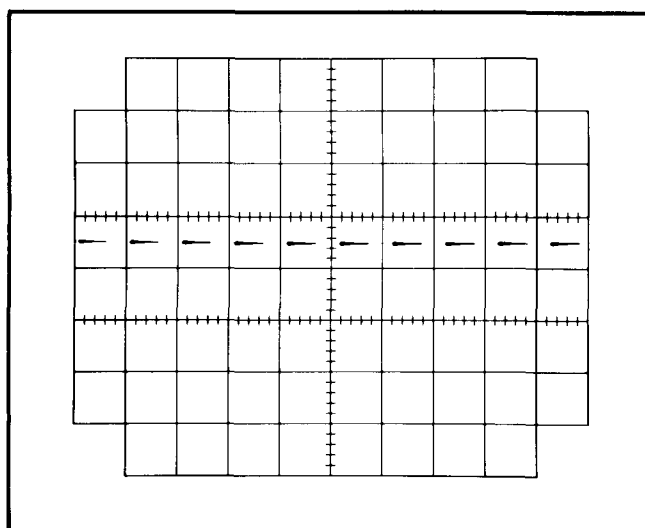

Fig. 5-11. Typical display, intensity modulation (Z Axis Operation).
- h. Check—Upper Beam CRT display for noticeable intensity modulation (see Fig. 5-11). (INTENSITY setting may have to be reduced to view trace modulation.)